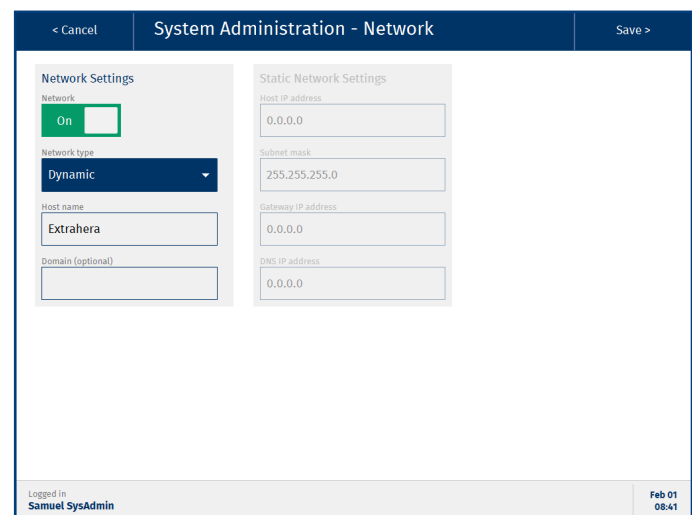

Figure 11. The Network view.
3. In the **Network** view (see Figure 11), enable the **Network** option.